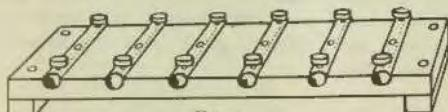

FIG. 2.
$\frac{1}{8}$ in. long and  $\frac{1}{8}$ in. in diameter—will be big enough, and one more than the number of telephones to be used will be required. The panel illustrated (Fig. 2) shows how five pairs can be utilised.
A glance at Fig. 2 will show you that the loose coupler is a double circuit tuner consisting of a primary coil (P) and a secondary coil (S).